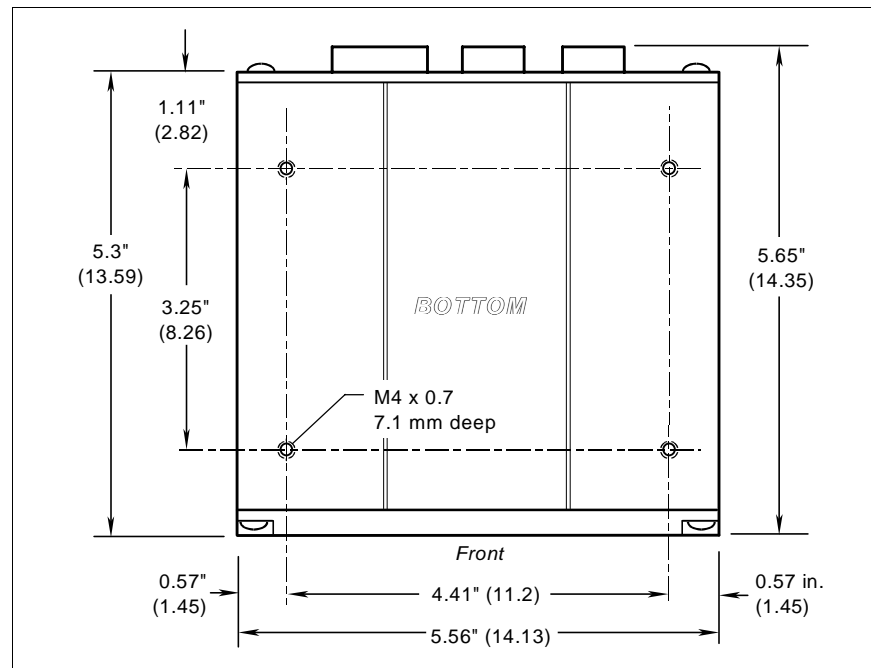

Figure 1-12 Bottom Mounting Holes of MS-7100 (not to scale)
- Use the measurements provided in figure 1-12 to locate centers of mounting holes and drill four 0.203 inch or four 6.7 mm holes.